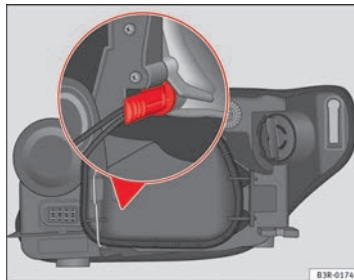

Fig. 215 Side lights. Bulb holder grip in vertical position
- Insert the bulb into the socket so that the side of the bulb holder grip is vertical ⇒ Fig. 215 and press on it.